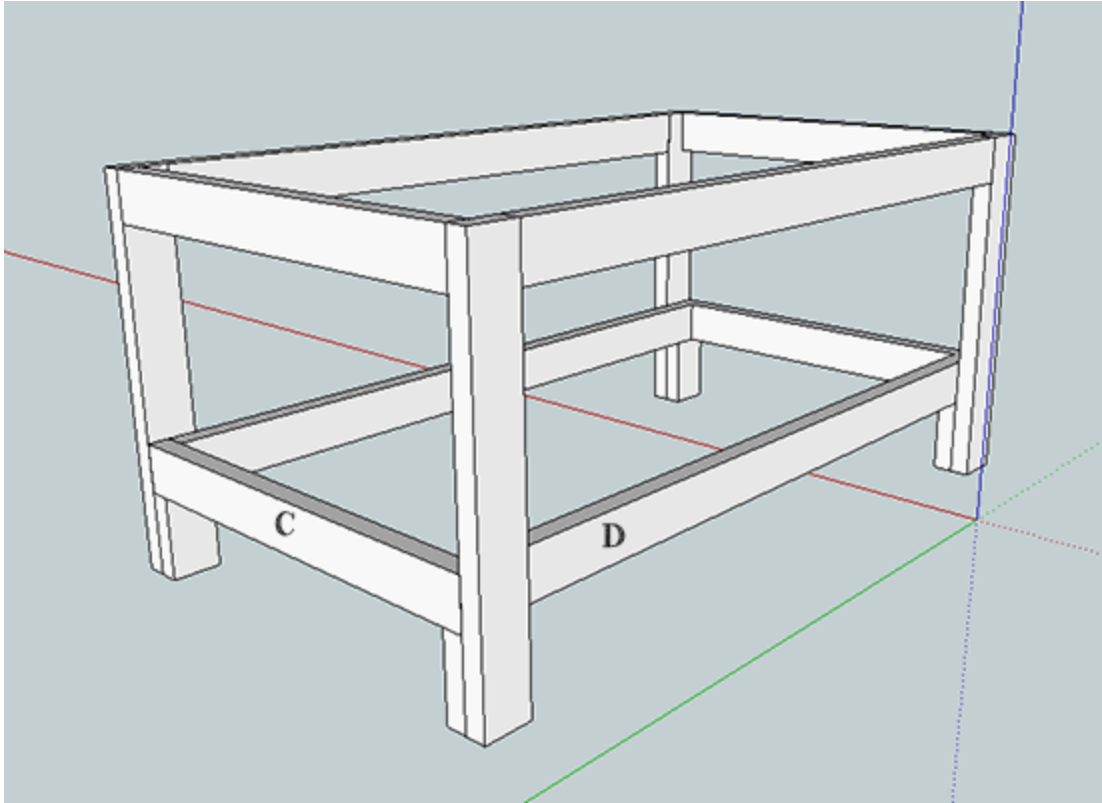

Figure 5: Bottom Long Supports
7. Rest the 'D' boards on the top of the 'B' boards and attach the 'D' boards to the 'C' and 'A' boards using glue and either pocket screws or long wood screws similar to Step 4 (Figure 5).